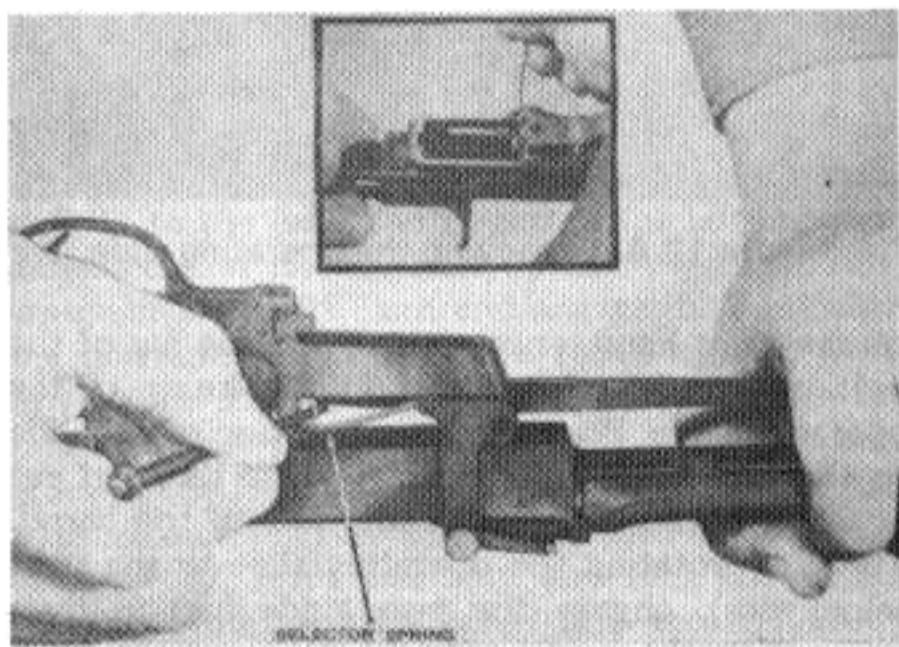

Figure 8. Removing the selector spring.
*g.* Now rotate the selector to the rear (semi-automatic setting). Insert the point of the operating slide spring guide into the loop of the selector spring (Fig. 8). Push the loop end downward opposite its dismount notch and remove the selector spring. Move the selector forward to the automatic setting. Slide the selector to the rear, disengaging the slot of the selector from the straddle slots on the trigger housing and selector pin.